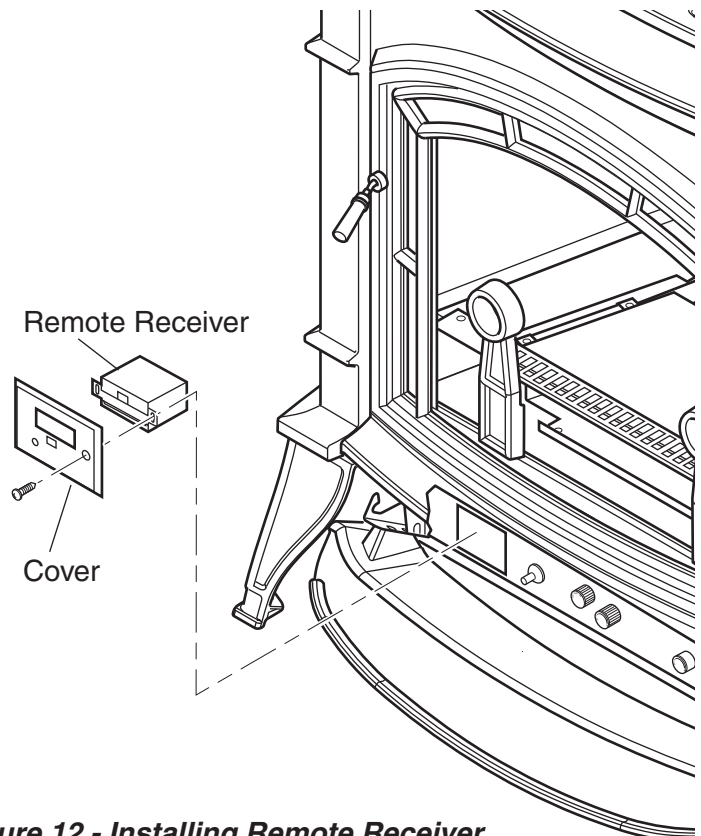

Figure 12 - Installing Remote Receiver
1. Remove cover on control panel to show opening for remote receiver. *See Figure 12.*
3. Place remote receiver in the opening of control panel. Use two screws provided to attach remote receiver to the control panel. *See Figure 12.*